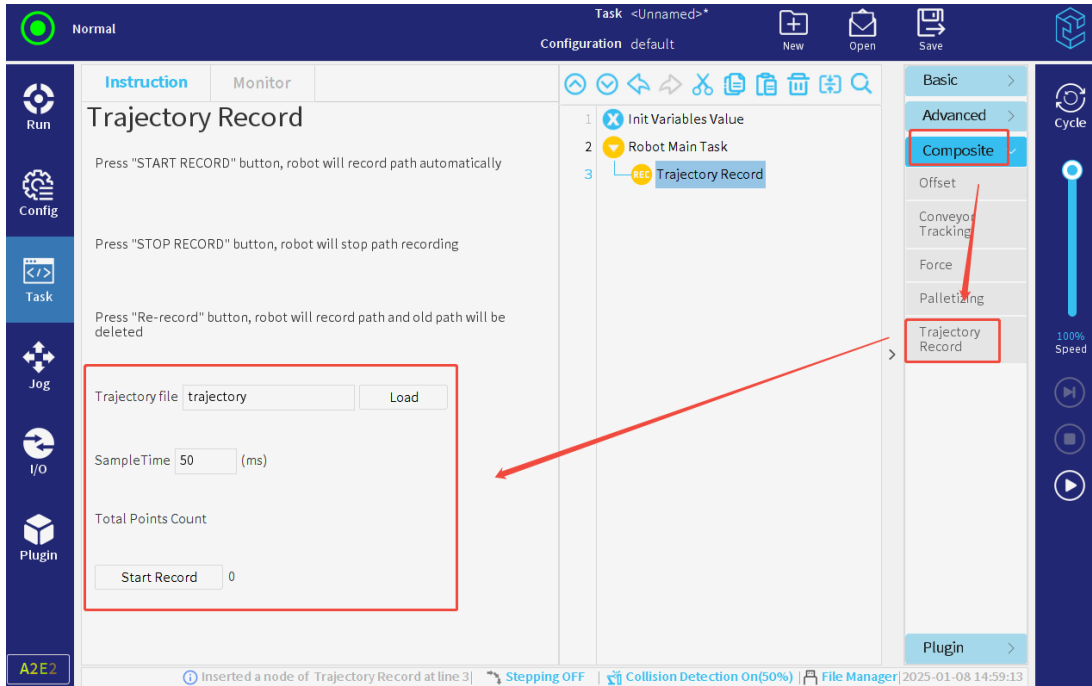

Figure 3-128 : Recording the trajectory
4. Click "Stop Re-record", the robot will start to make a record again and the previous path will be overwritten, as shown in **Figure 3-128** .